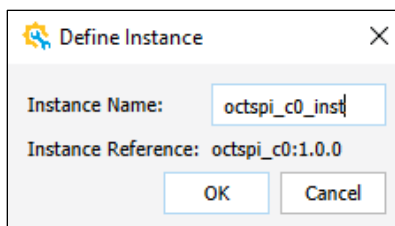

Figure 6.4. Define Instance
7. After generating the IP, the **Define Instance** window opens as shown in Figure 6.4. Modify the instance name if needed, then click **OK**.